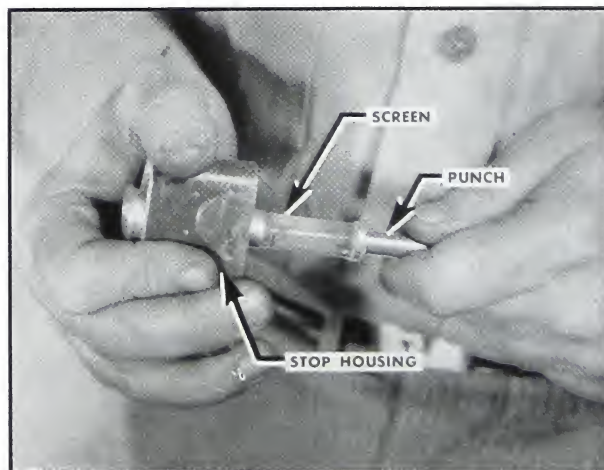

Fig. 5-242. Press in screen assembly
2. If the screen needs replacement, assemble a new "O" ring around the screen, coat with Lubriplate and press the screen assembly into the housing. Use a flat end punch against the base of the screen to press it in. Fig. 5-242.